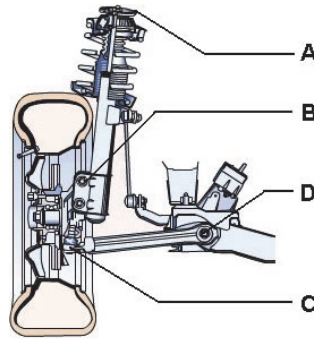

Fig. 1-17 Positions for the Front Wheel Camber Adjustment of the MacPherson Independent Suspension
1.5.1.2.1.1 Generally, positions for the front wheel camber adjustment of the MacPherson independent suspension are as follows (as is shown in Fig. 1-17):